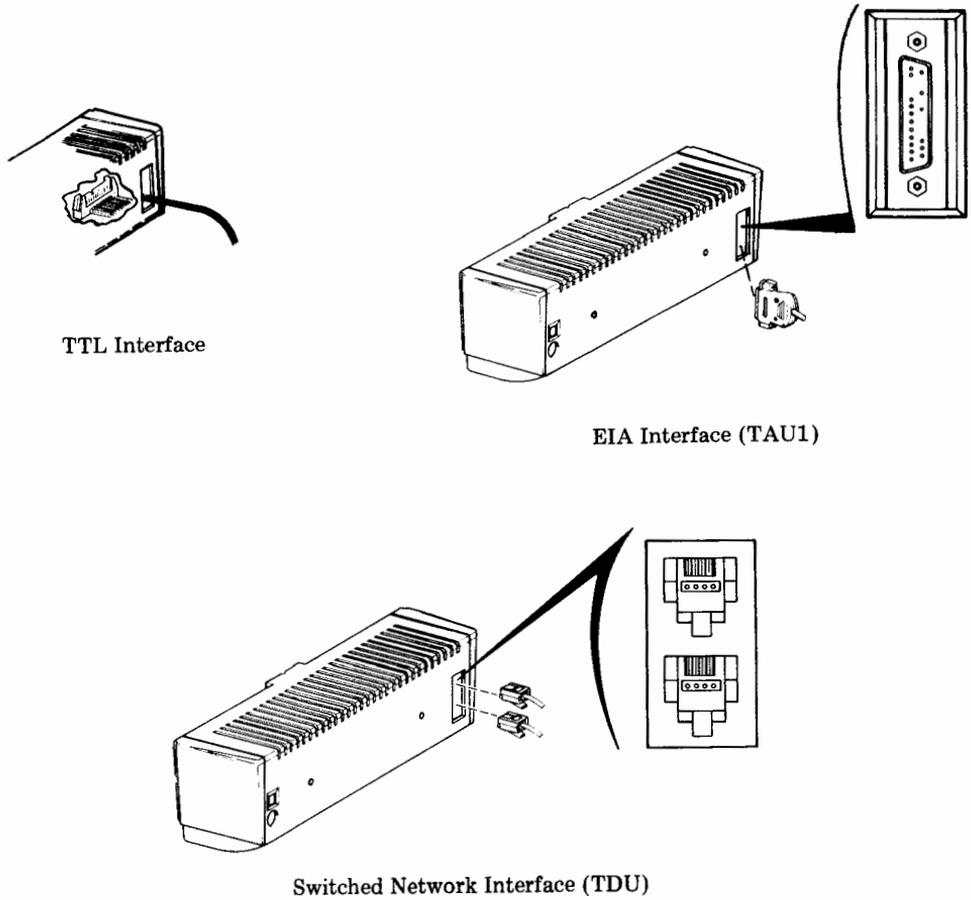

Fig. 2—Interface Connectors
2.02 The 43 Teleprinter consists of the following: (Refer to Fig. 2)